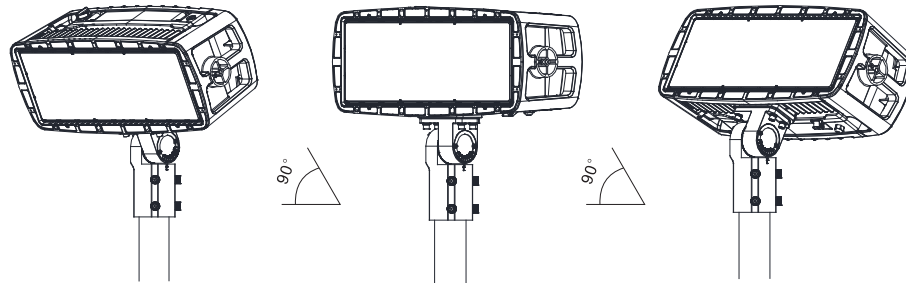

Figure 10
3. Use an open-end wrench and hex wrench to loosen the adjusting screw for adjusting the angle (Figure 10)